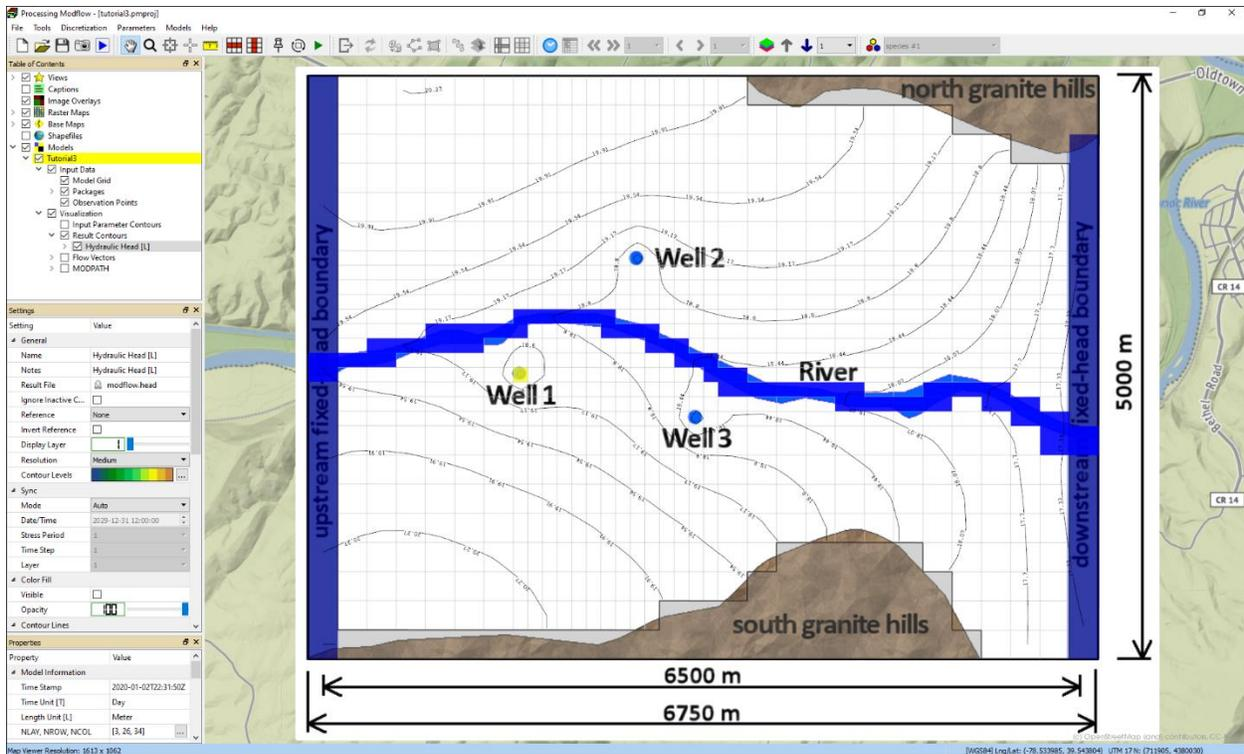

Figure 13. Hydraulic head contours of Layer 1
3. Click OK to accept the default data type “Hydraulic Head”. An “Hydraulic Head [L]” item is added to the TOC, and the hydraulic head contours are displayed on the Map Viewer. The hydraulic head contours in Layer 1 should look like Figure 13.